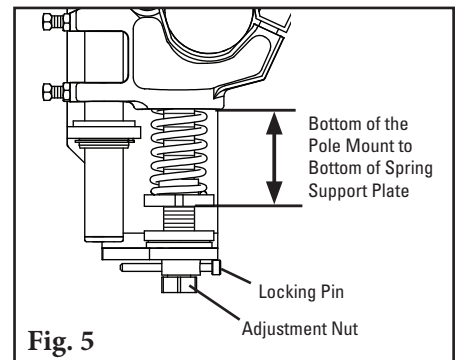

Fig. 5
Turn the adjustment nut until the correct spring compression is reached (Fig. 5). Spring compression is determined by the spring length. See the chart below for the correct spring length for your belt width. Replace the locking pins.
5. **Set the tip tension.** Slightly loosen all the clamp block lock bolts and turn the bottom adjusting bolt jam nuts down 5-6 turns (Fig. 5). Turn the top adjusting bolt jam nuts down until light contact is made between the blades and the full belt width. Make an additional 1-1/2 turns on both top jam nuts and retighten the bottom jam nut. Tighten all clamp block lock bolts.
6. **Check the blade tension.** Pull back on the outside blade until the tip-to-belt contact is broken and release. If the cleaner is correctly tensioned the complete tip of the adjacent blade will be visible (Fig. 5). If not, add (or reduce) tension by making 1/2 turn adjustments on the adjusting bolt jam nuts as described in Step 5 until the adjacent tip is visible.